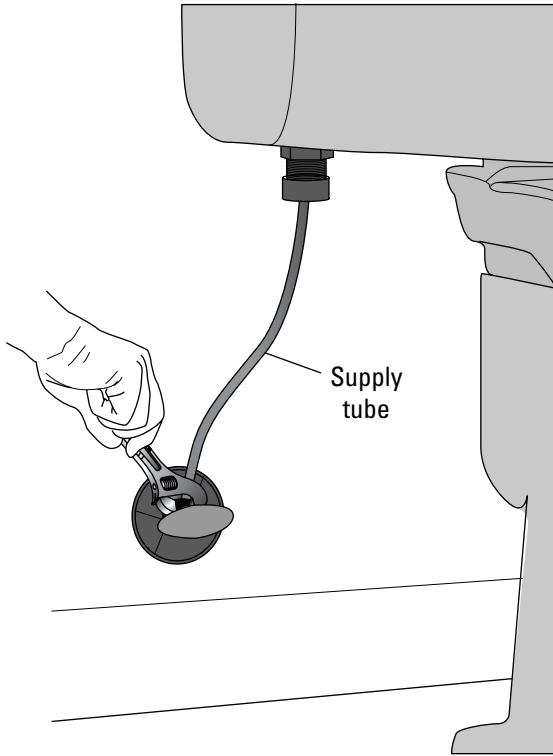

Figure 8-4:
1. Turn off the shut-off valve to the toilet (see Figure 8-4).